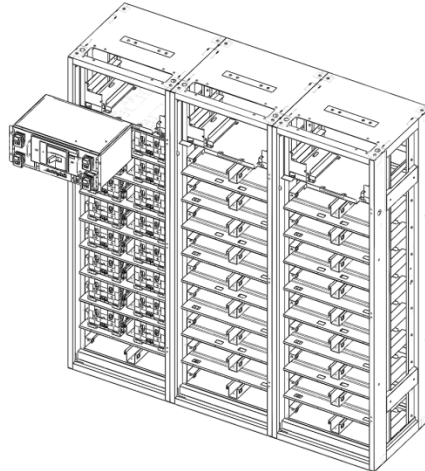

Figure 3-10: Inserting Switchgear
1. Insert the Switchgear Assembly through the front of the rack as shown in Figure 3-10: Inserting Switchgear